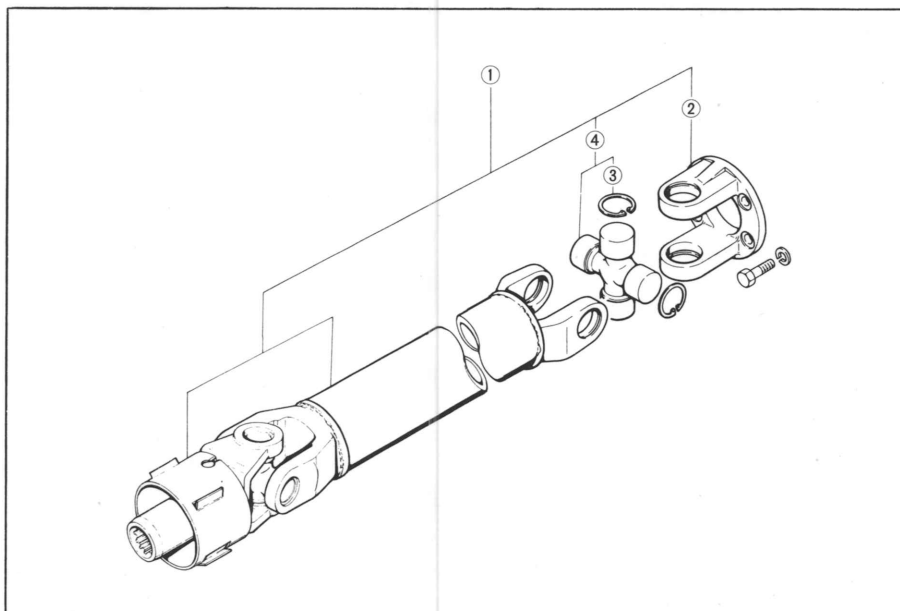

Fig. 8-4 Propeller shaft components
- Fig. 8-4 Propeller shaft components